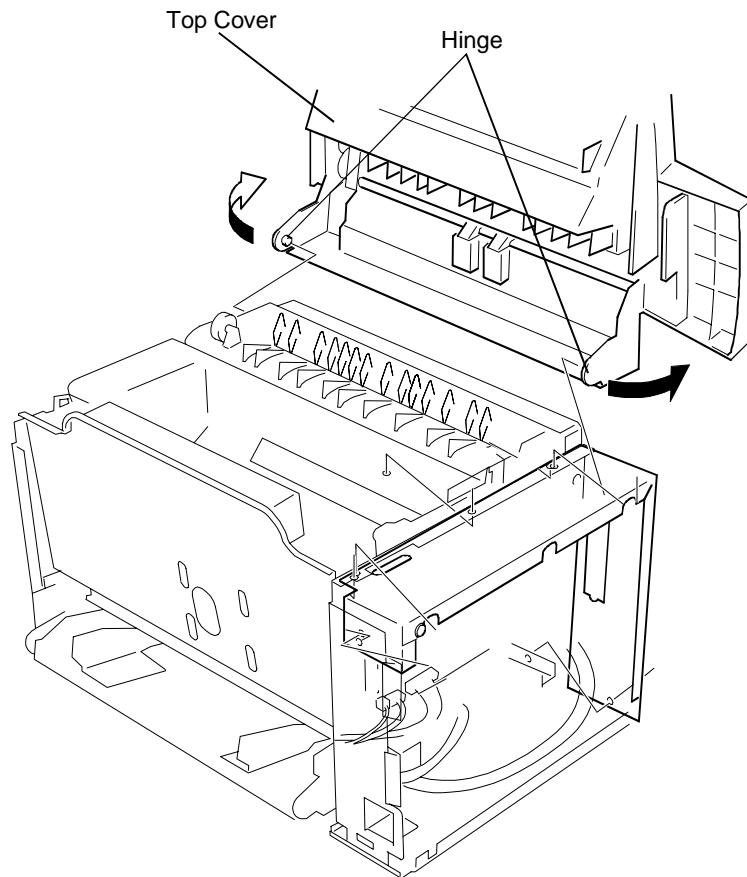

Figure 4-21. Top Cover Removal
6. Push both left and right hinges of the top cover toward arrow directions in figure 4-21 and remove the top cover.